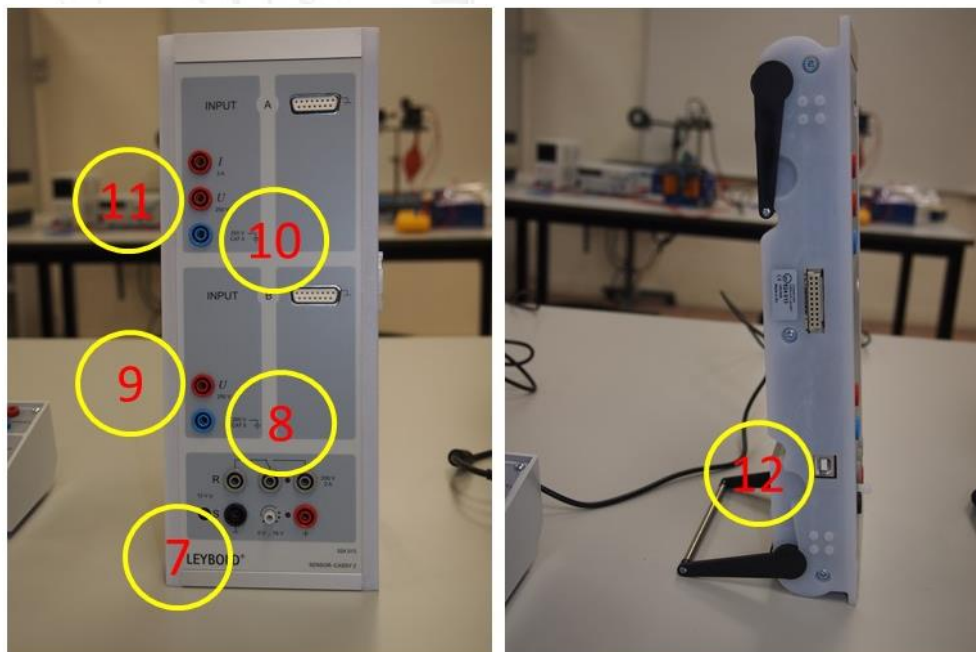

Figure 3. Front (left) and back (right) of the adapter for data acquisition
The adapter for data acquisition is presented in Fig. 3. The point (7) is the jack socket for plug-in power supply. It is connected to the net through an adapter (12 V AC). The points (8) and (9) are the in-put for measuring the voltage drop at the ends of the superconductor